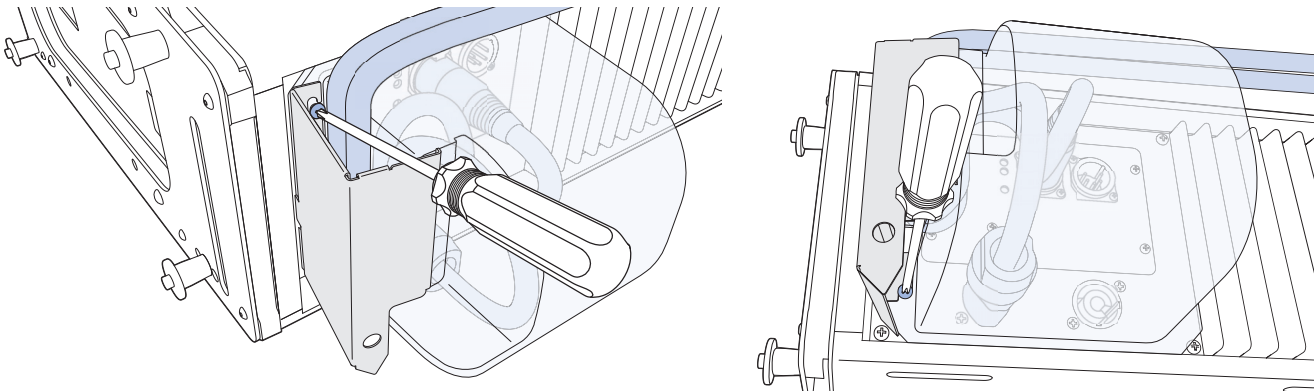

Figure 3: Tightening Screws on Left Side of Rain Hood
7. Tighten the upper and lower screws on the left side of the rain hood (Figure 3). The recommended torque value for all four screws is 10–12 in-lbs (1.1-1.4 N·m).